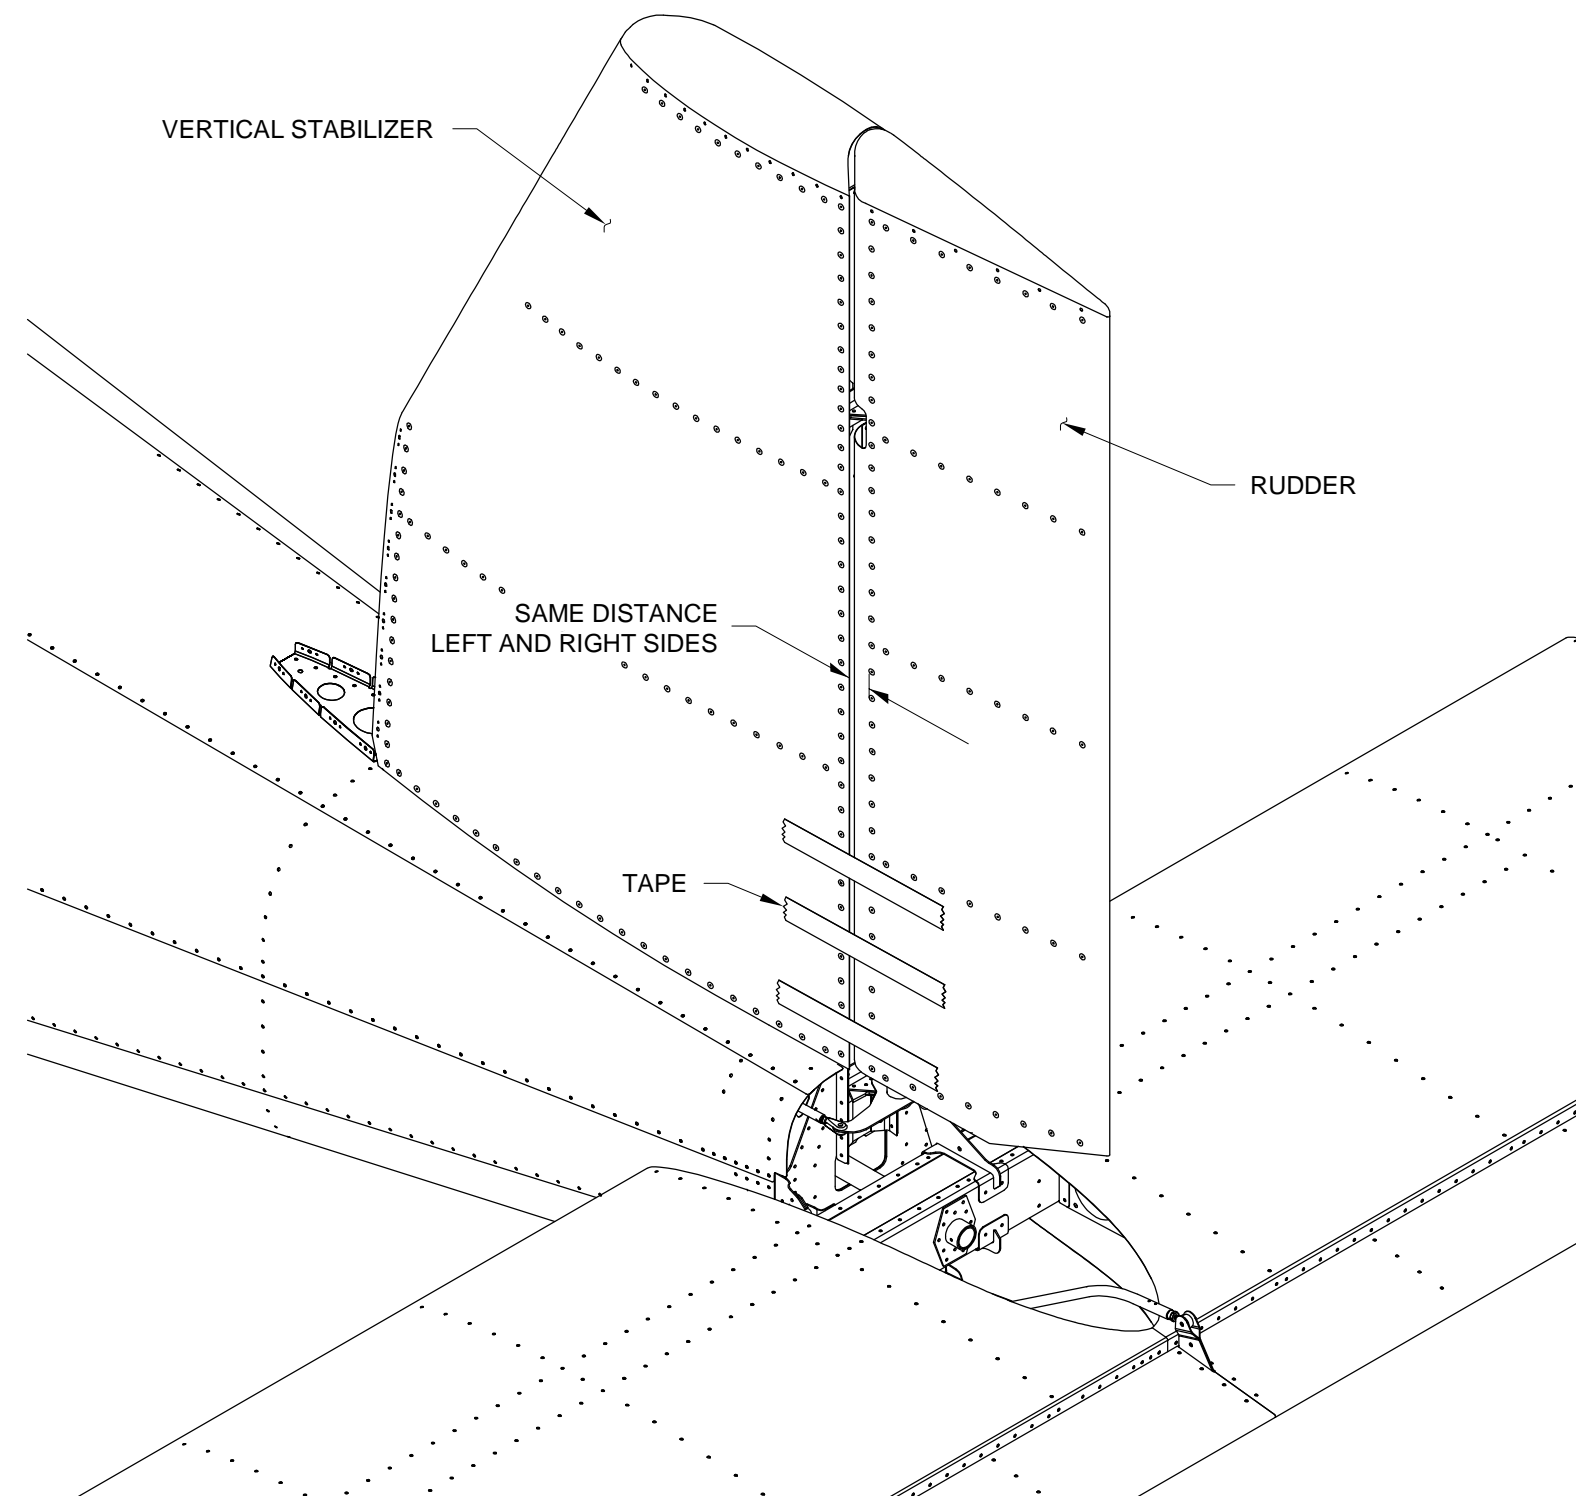

FIGURE 3: CENTERING THE RUDDER
Step 4: Center the rudder. This can be verified by measuring the distances from the trailing edge of the vertical stabilizer skin to the line of rivets on the rudder shown in Figure 3. When this distance is the same for the left and right side, restrain the rudder by applying duct tape (masking tape if painted) across the gap between the vertical stabilizer and rudder as shown. Verify that the rudder has not moved while applying the tape.